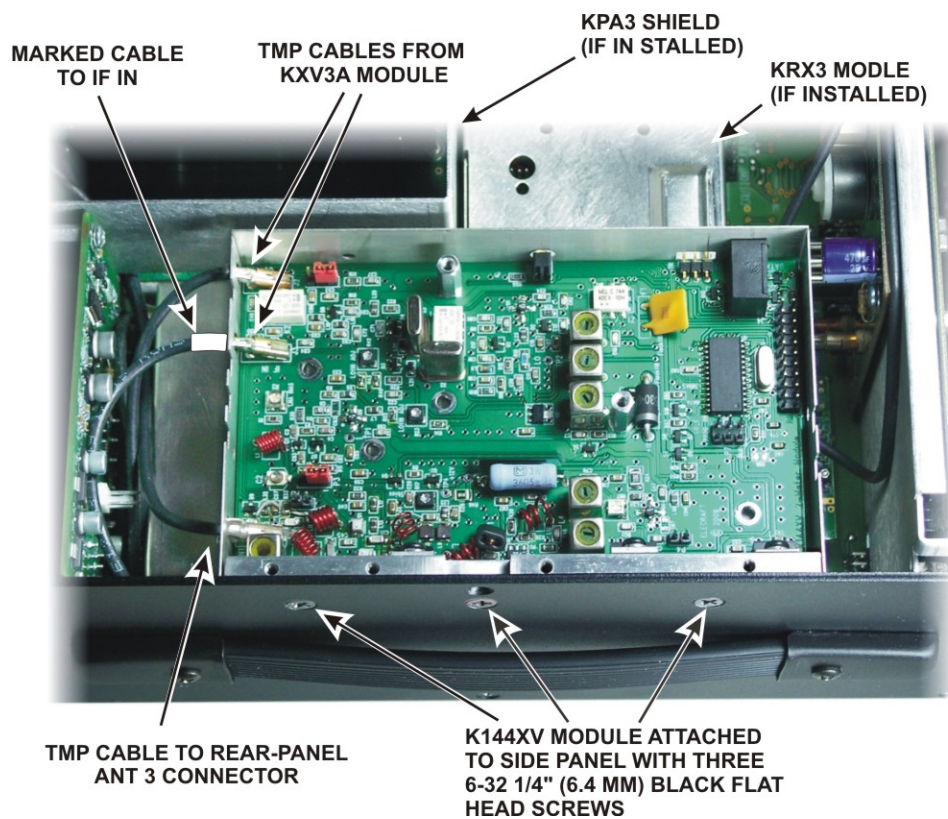

Figure 7. Mounting the K144XV Module in the K3.
- Mount the K144XV module on the side panel using three 6-32 1/4" (6.4 mm) black flat head screws as shown in Figure 7. Be sure you don't trap any of the TMP cables underneath the module.
Lift the top cover off of the K144XV module and connect the cables as follows (See Figure 7). The top cover is supplied fitted but not screwed onto the module.